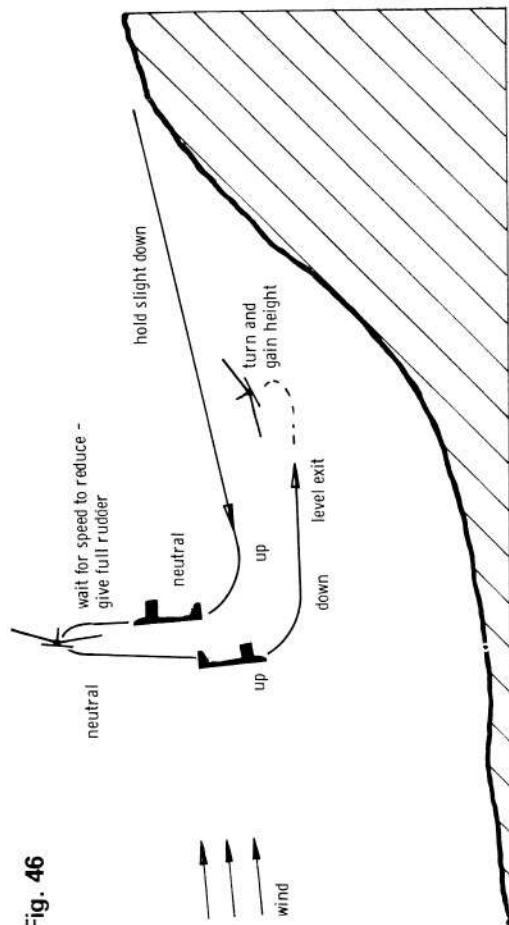

Fig. 46
**The stall turn.** Timing is the essence of this manoeuvre and, although it is a very simple figure in itself, it needs a great deal of practice to be reliably repeatable to order. Once again we dive to gain speed, but not so much as for the loop, then pull up fairly sharply, so that the model is climbing at an angle of about 70°. Now—*fast*, before it stops and drops back—bang in full left (or right) rudder, *sharply*. This will kick the tail over to one side, so that the nose drops to the other side, instead of dropping forwards as it would in an ordinary stall. Let the nose drop right down and allow the model to pick up flying speed. When you are sure it is safe to do so, gently ease the nose up into a level position and then turn the model (which is now heading towards you, if you commenced into wind) back away from the slope. Fig. 46 shows the sequence.